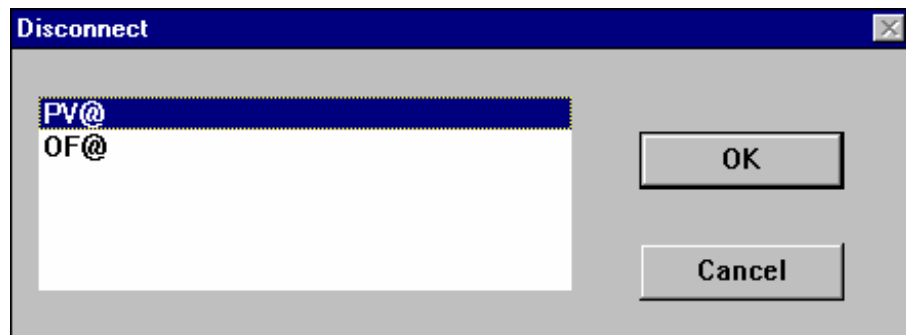

Figure 6-9: Destination Point Dialog Box Example
3. Select Disconnect from the module menu. The Disconnect dialog box appears (Figure 6-9) showing all destination points of the selected module that are currently connected.